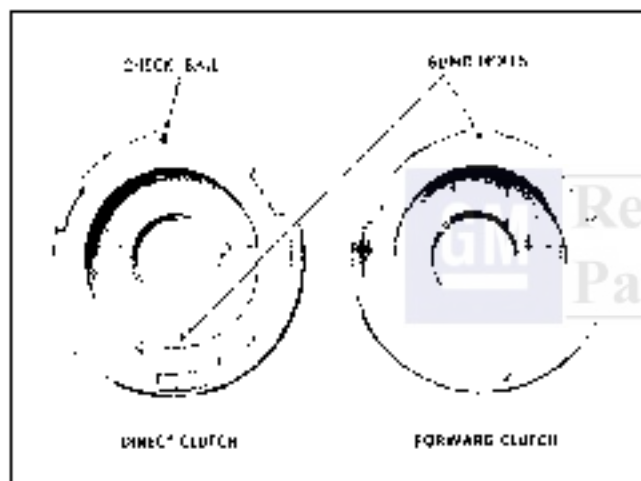

Fig. 7E-99 Identification of Direct Clutch Piston
10. Install backing plate retaining snap ring (Fig. 7E-102).